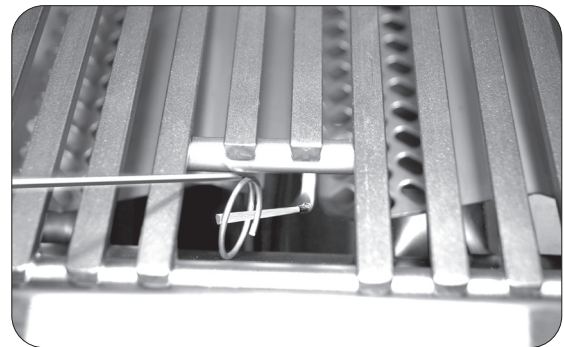

Fig. 29-2 - Manual lighting
2. Insert either a burning long-barrel butane lighter or a burning long-stem match through the cooking grid opening to the top of the burner (Fig. 29-2). For backburners, hold the flame against the surface of the backburner.
4. If the burner does not light within five (5) seconds of turning the control knob, **immediately depress the knob and turn the valve to OFF**. **WAIT FIVE (5) MINUTES** before repeating steps 2 through 4 of the **MANUAL LIGHTING** instructions.